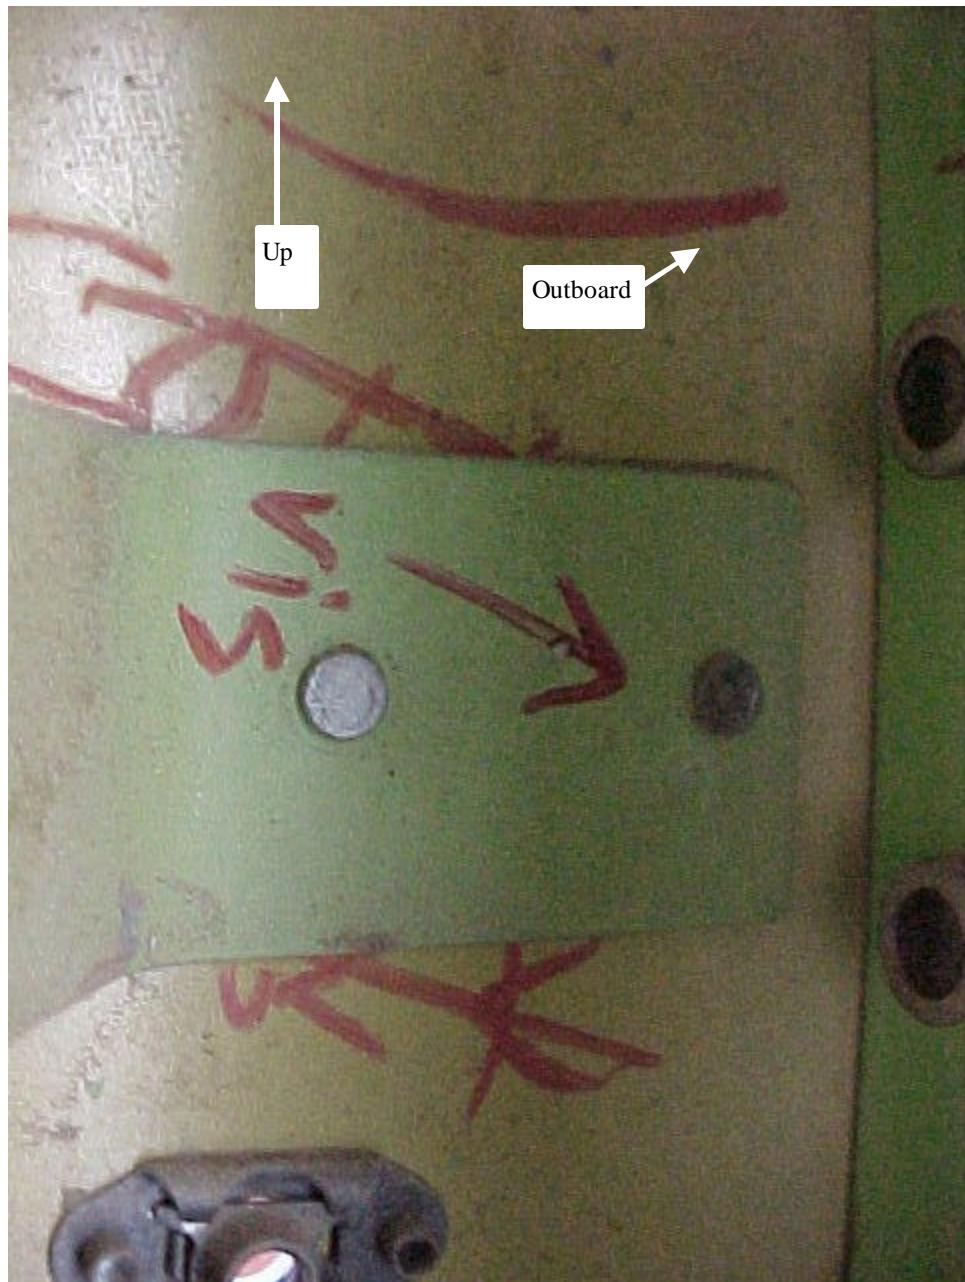

Figure F-6. Photograph documenting an indication in the tab at 848.95 (aft side of aft door).
- FIGURE F-6 Photograph documenting an indication in the tab at 848.95 (aft side of aft door)....F-6